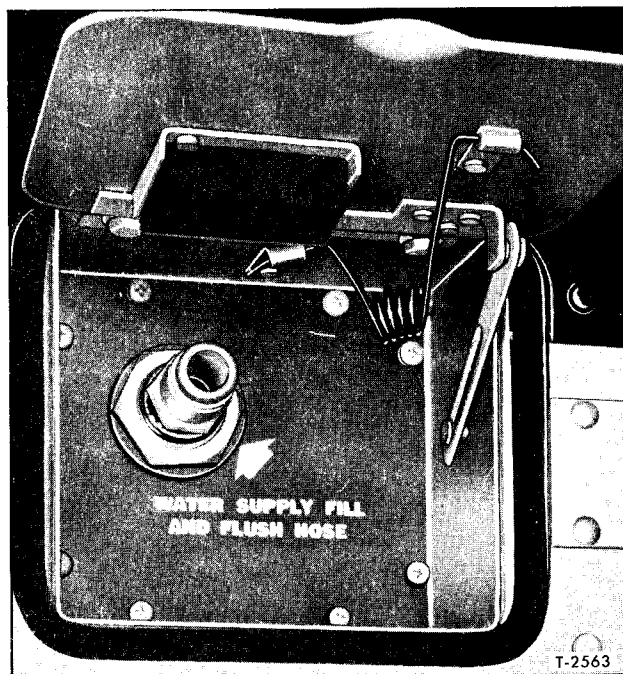

Figure 6—Lavatory Water Service Fitting
Lavatory filling and flushing service line fitting is accessible after opening access door at right rear side of coach (fig. 6). End of line is equipped with a quick release coupling fitting to which a flexible service hose with a mating coupling can be attached for servicing tanks.
1. Lift access door over service line fitting at right rear of coach (fig. 6), then connect water supply hose to fitting marked "WATER SUPPLY FILL AND WASTE TANK FLUSH HOSE." Shut-off valve (5, fig. 3) must be open.
right rear of coach (fig. 6), then connect water supply service hose to fitting.